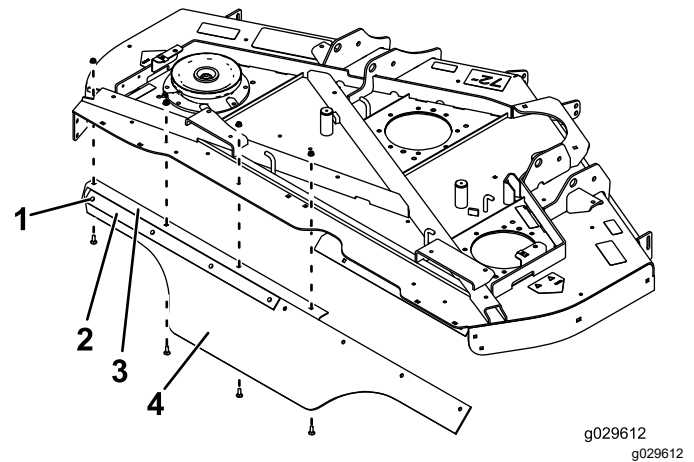

Figure 10
3. Loosely mount a support strap and the left (angled) end of the deflector to the rear angle with 4 carriage bolts (5/16 x 7/8 inch) and 4 nuts (5/16 inch) as shown in Figure 10.
4. Loosely mount the rear angle with the deflector to the mower deck with 4 carriage bolts (5/16 x 7/8 inch) and 4 nuts (5/16 inch) as shown in Figure 10.